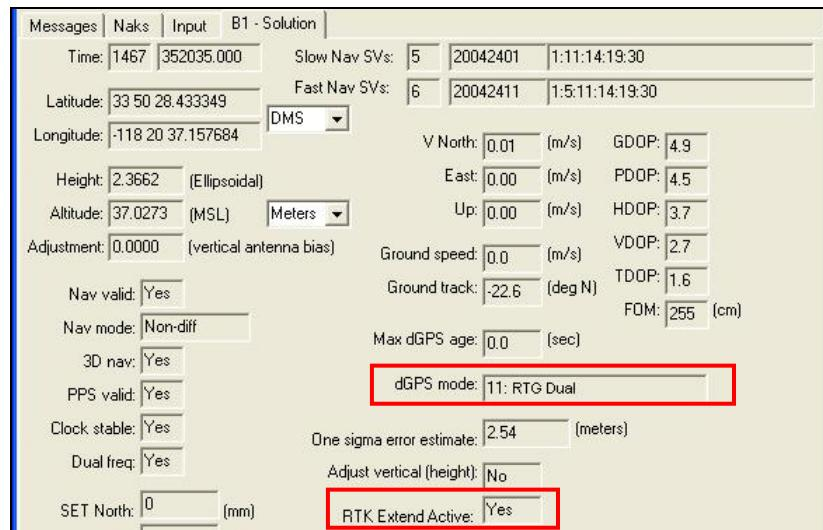

Figure 124: B1 – Solution: RTK Extend Active
- ✓ To verify that RTK Extend™ is active, select *View > B1 – Solution*. The *B1 – Solution* tab must display these values (see Figure 124):